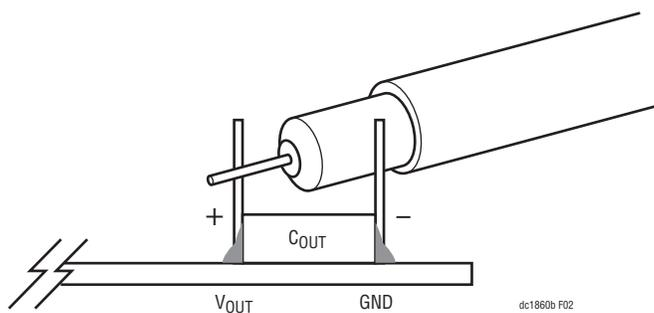

Figure 2. Proper Scope Probe Placement for Measuring Input or Output Ripple
**NOTE:** When measuring the input or output voltage ripples, care must be taken to avoid a long ground lead on the oscilloscope probe. Measure the input or output voltage ripple by touching the probe tip directly across the terminals of the input or output capacitor. See Figure 2 for proper scope probe technique.